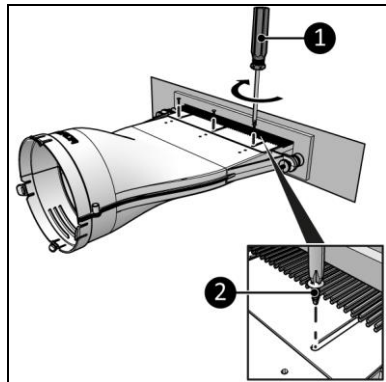

Figure 6
5. Fix the main body and transit with the screws (Figure 6, pos. 2) using a Philips screwdriver (Figure 6, pos. 1).